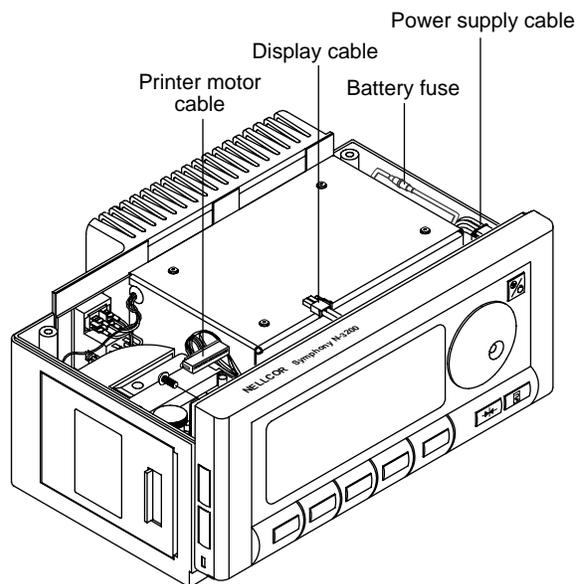

Figure 6-6: Disconnecting Cables from UIF Board
1. Display data is missing or erratic.	<ol style="list-style-type: none"> 1. If operating in stacked configuration, disconnect the N-3200 from the other instruments and reconnect. 2. If the condition persists, enter the service mode as described in paragraph 3.3.4, Hardware and Software Performance (Service Mode). Verify the condition by performing the procedures in paragraph 3.3.4.2, Display Tests. 3. If the power cycles, but there is no display, check the display cable connection as indicated in Figure 6-6. 4. If none of the displays light, replace the UIF PCB. If the condition still persists, replace the Display PCB. 5. If some but not all of the displays light, replace the Display PCB. If the condition still persists, replace the UIF PCB.
7. Disconnect the display cable and printer motor cable from the connectors on the UIF board as illustrated in Figure 6-6.
13. Reconnect the printer motor cable and display cable (Figure 6-6). Replace the power supply cable by pressing the connector on the housing.